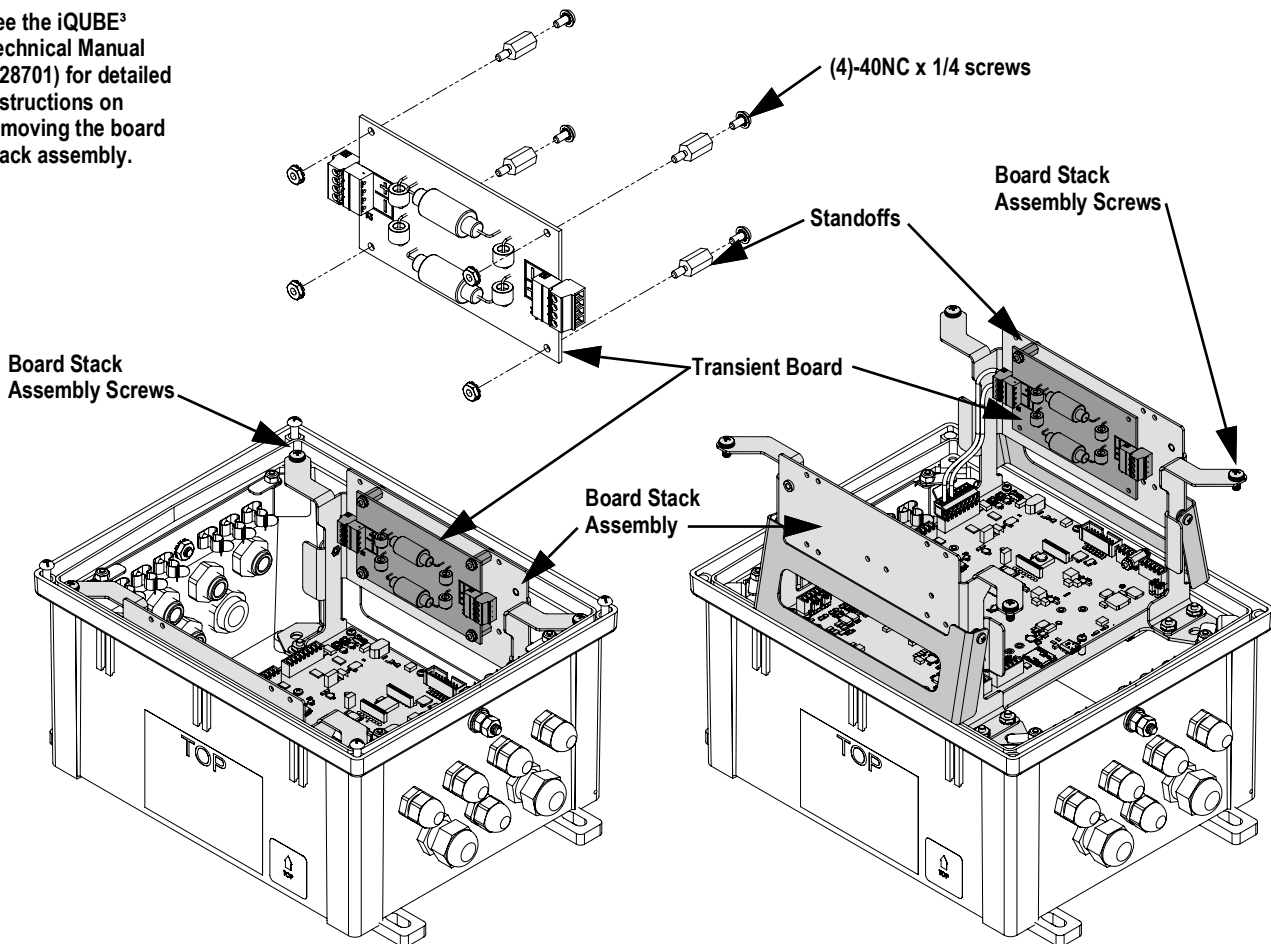

Figure 1. iQUBE³ Board Stack Assembly and Transient Board
3. Remove screws securing board stack assembly to the enclosure (Figure 1 on page 1).
4. Pull board stack assembly out of the enclosure and rest the kickstands on the enclosure channel (Figure 1 on page 1).
6. Secure transient board to the board stack assembly with four 4-40NC x 1/4 screws (Figure 1 on page 1).